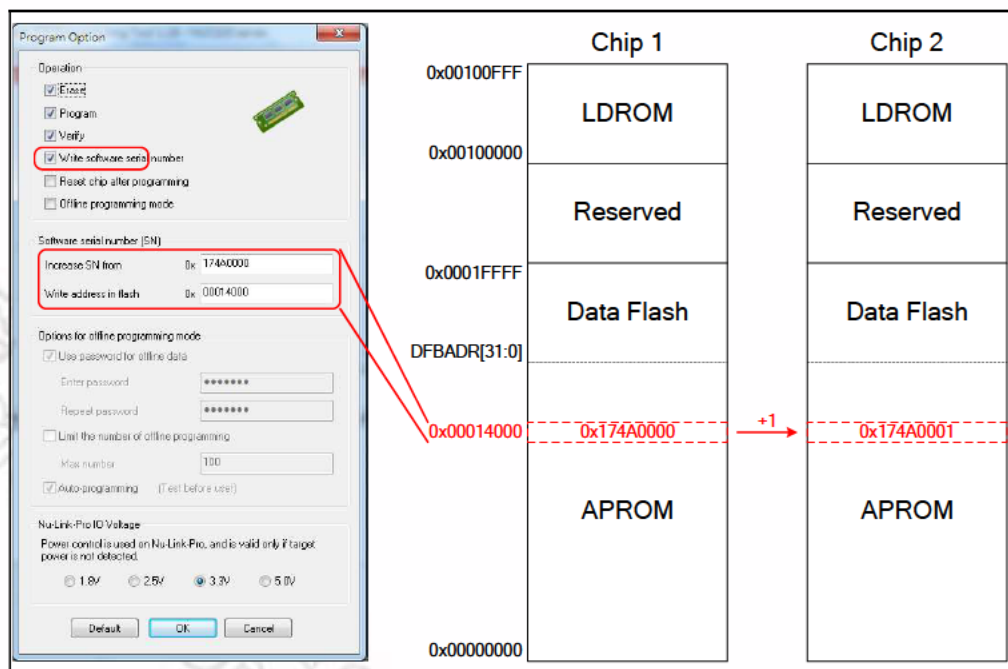

Figure 3-7 Software Serial Number (SN) Settings
The Software Serial Number (SN) function provided by the ICP Tool enables users to specify the value in the “Increase SN from” and “Write address in flash” fields for the target chip during online/offline programming. Take the NUC140VE3CN chip for example, the user can specify a set of “Increased Serial Number (SN)” and “Write Address” to any of APROM, LDROM, and Data Flash, and the written Serial Number (SN) will be automatically incremented (as shown in Figure 3-7).